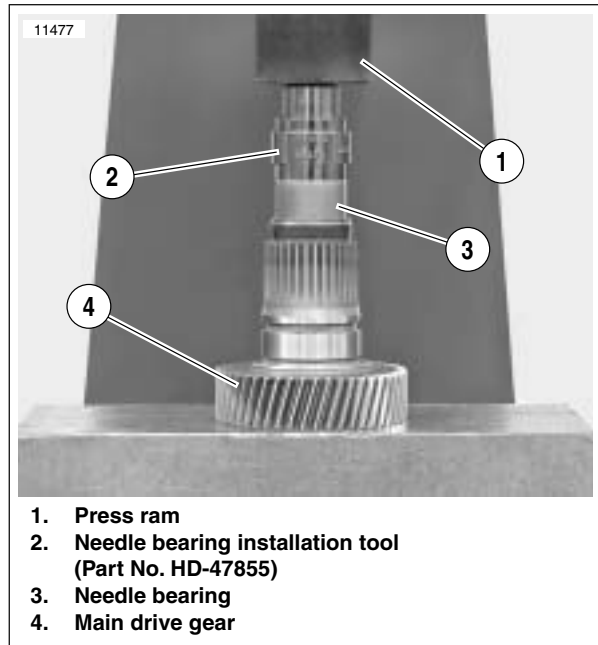

Figure 6-73. Pressing Outer Needle Bearing Assembly into Main Drive Gear
- e. See Figure 6-73. Place main drive gear (4) on press bed with gear end facing down.
- f. Place needle bearing (3) squarely into end of drive gear. Insert installation tool (2) with end stamped "OUTER" facing needle bearing.